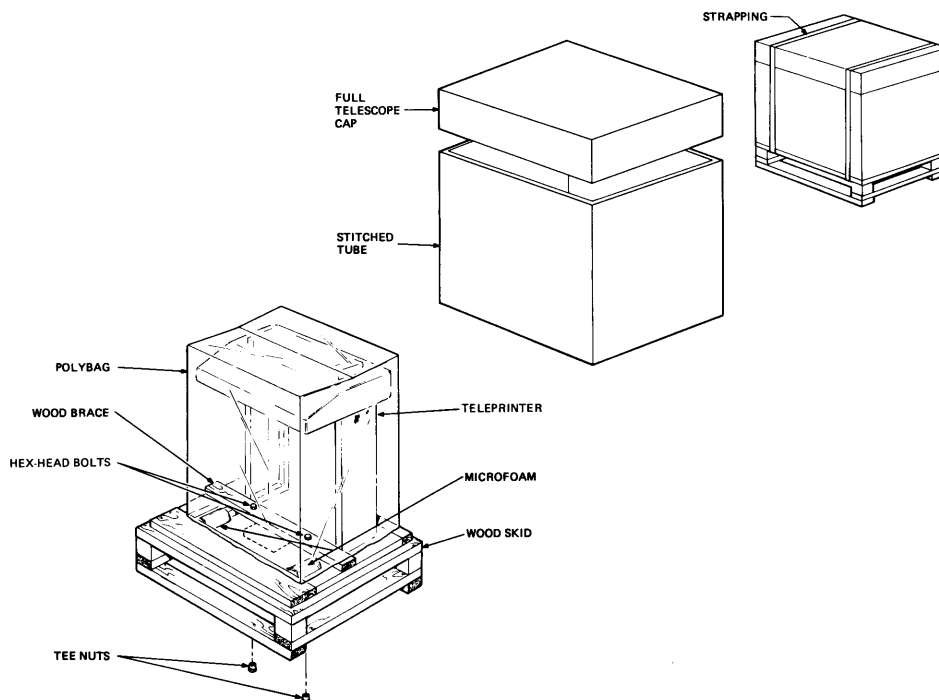

Figure 2-2 Unpacking/Packing
3. Remove all shock-absorbing material and packing from around the LA120 (Figure 2-2).
3. Pack the LA120 as shown in Figure 2-2.